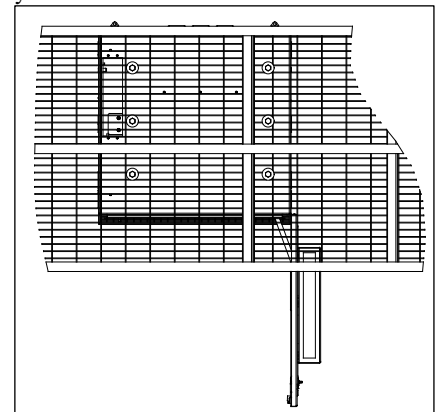

Figure 7 **Installing on a Platform**
5. To secure the CUBE to a steel grate platform, install 1/2” corrosion-resistant Grade 5 steel hardware through the cabinet and platform grate. Ensure that the bolts are long enough to extend past the nut on the bottom side of the platform grate. For all mounting applications, each bolted joint should have a minimum Ø1 inch fender washer on the inside of the cabinet (and underside of the platform grate for platform mounting) with a lock washer. The washer on the underside of the platform must be large enough to cover both adjacent bearing bars as shown in Figure 7.